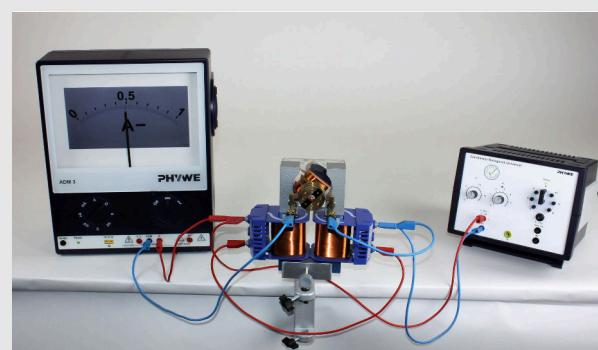
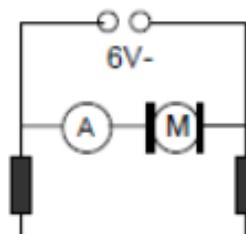

Fig. 2
Fig. 3
- Complete the structure according to Fig. 2 and Fig. 3.
If an is used to operate an , it must generate a sufficiently large in the vicinity of the armature. Therefore a U-shaped iron core with two field coils is used, between whose poles the runs. Armature coils and are connected in a shunt motor (Fig. 3).